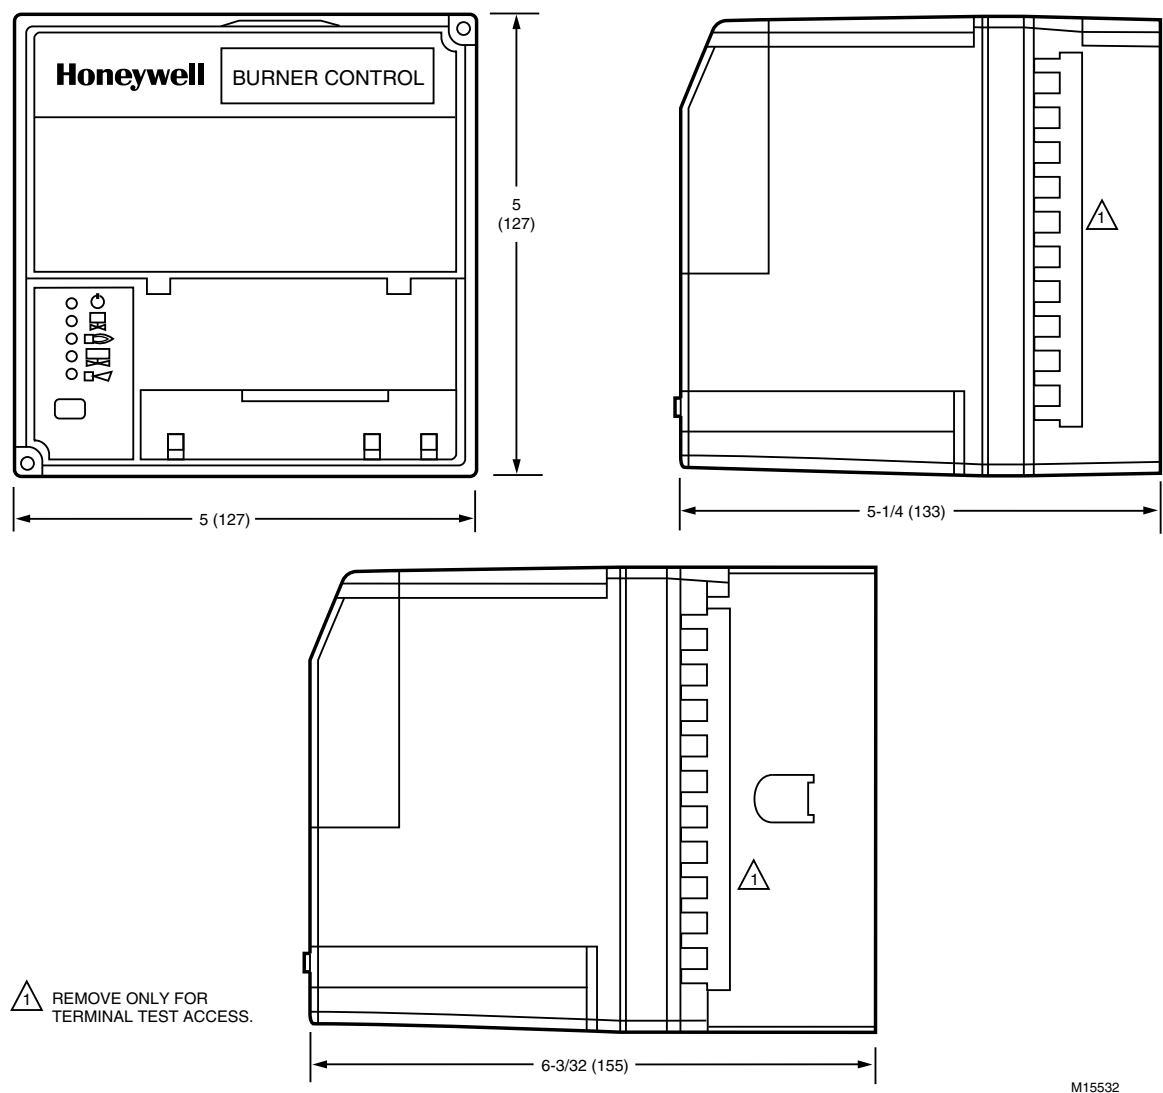

Fig. 1. Mounting dimensions of relay module and wiring subbase in in. (mm).
- Five sequence information light emitting diodes (LEDs) with symbols for Power, Pilot, Flame, Main, and Alarm (see Fig. 1).
Dimensions: See Fig. 1.